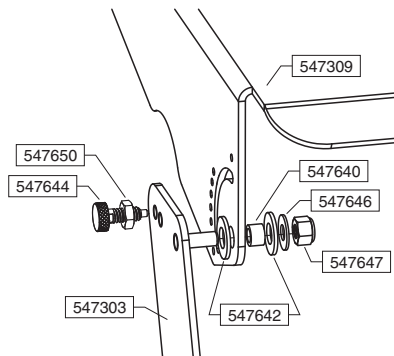

Figure 4.1 Shield Assembly
1. Attach side plates (#547303 and #547302) to the shield (#547309) through the pivot hole location, aligning stop pin into the guide slot. Place two thrust bushings on each side (4x #547642) on both sides of the shield flanges and insert the pivot bearing (2x #547640) through the shield and thrust bushings. Place one washer (2x #547646) and one locknut (2x #547647) on each stud and tighten to 14in-lb. See Figure 4.1.